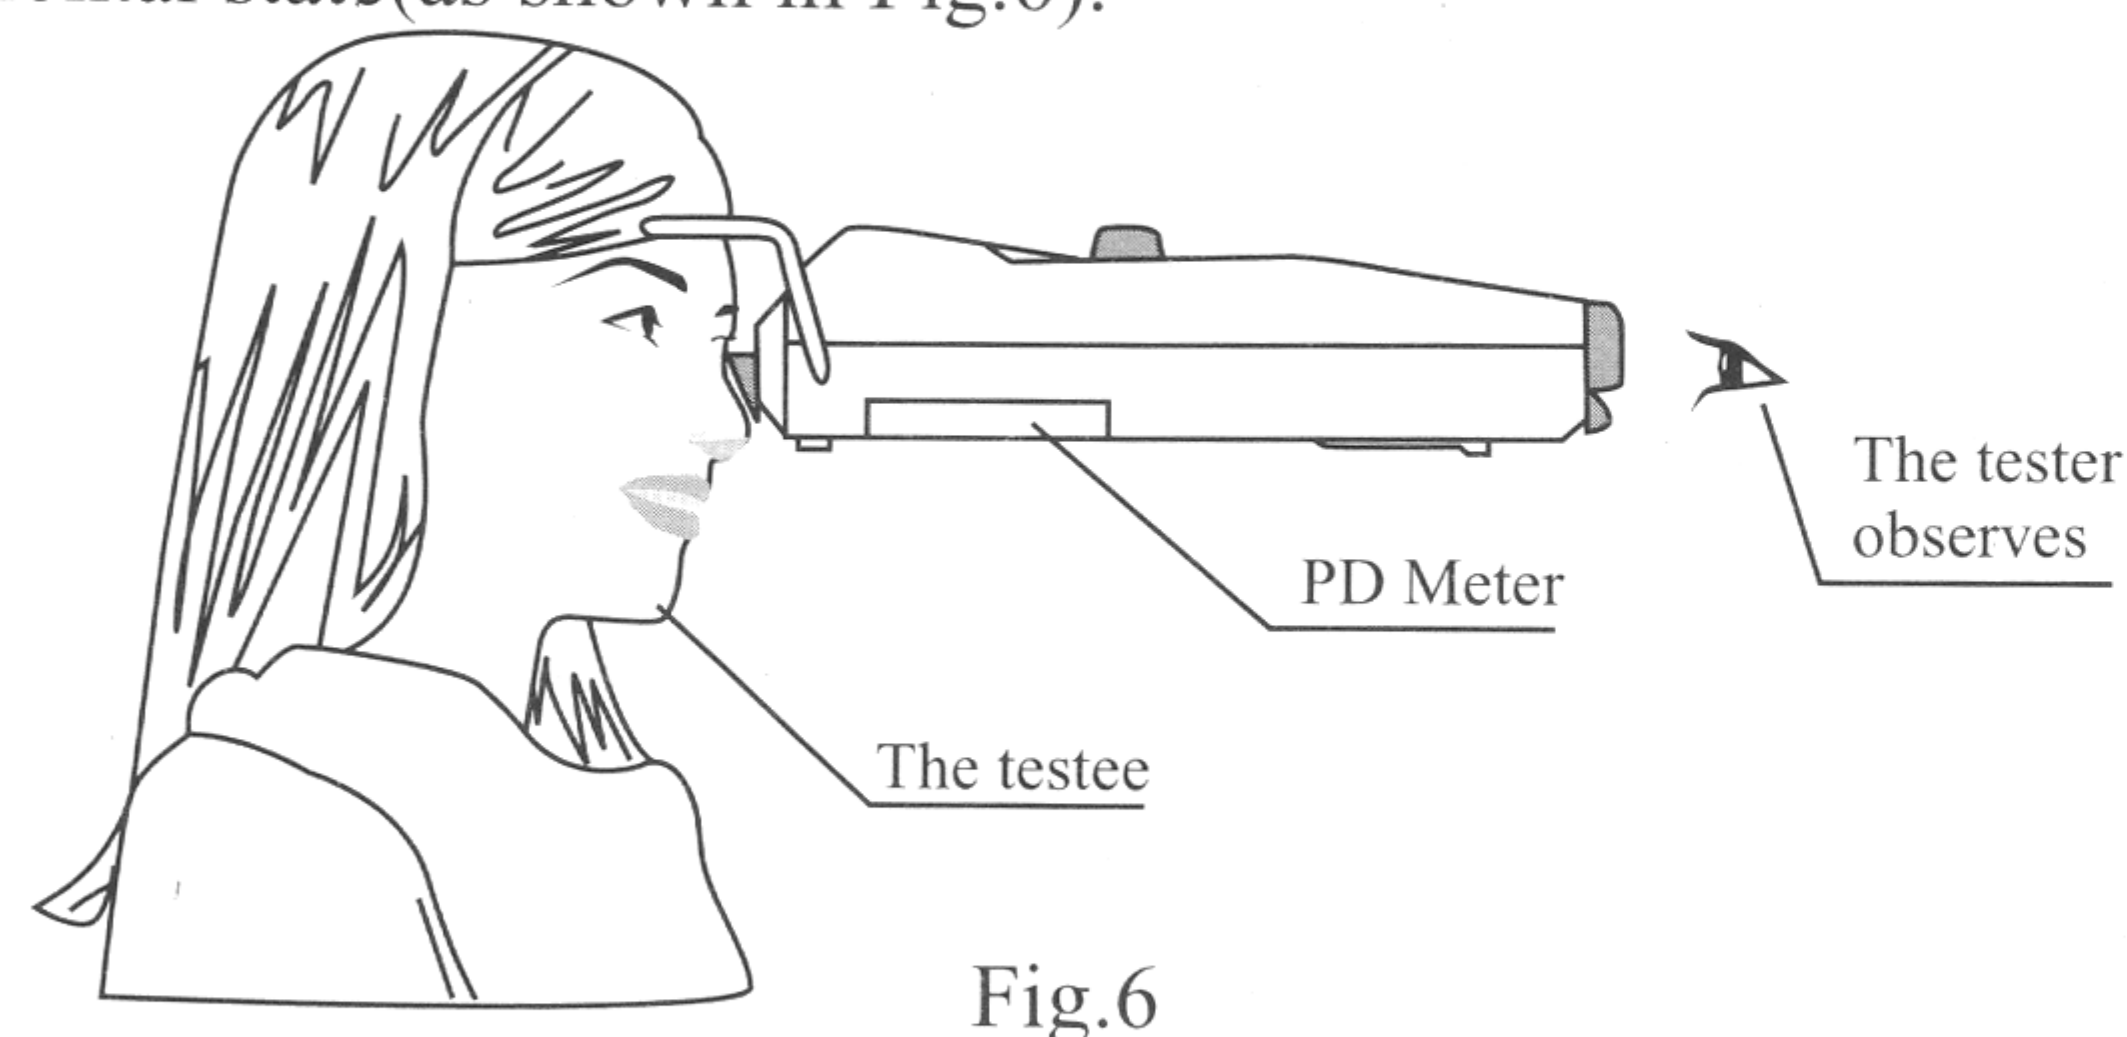

Fig.6
4.3.2 Put the forehead bearer lightly on the testees's forehead and nose bearer lightly on testee's nose, then keep the device in a horizontal state(as shown in Fig.6).